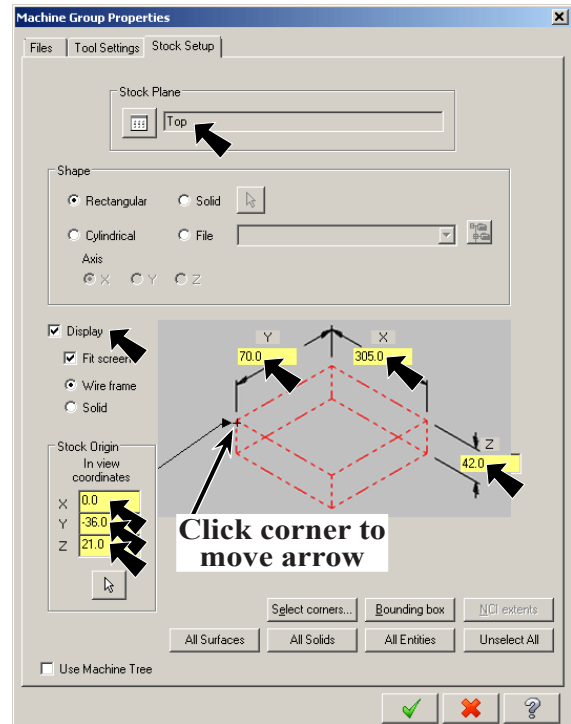

Fig. 2
Step 6. Confirm Stock View is **Top**, **Fig. 2**.